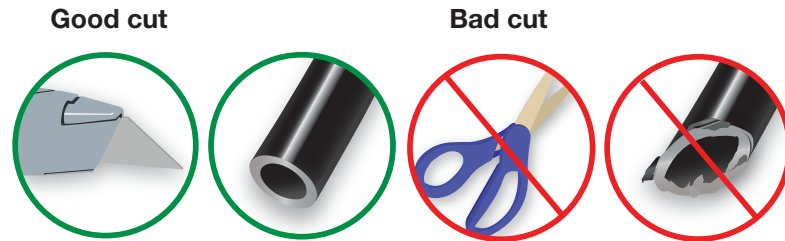

fig. 16
1. Cut the air line in half. Make clean, square cuts with a razor blade or hose cutter (fig. 16). Do not use scissors or wire cutters.